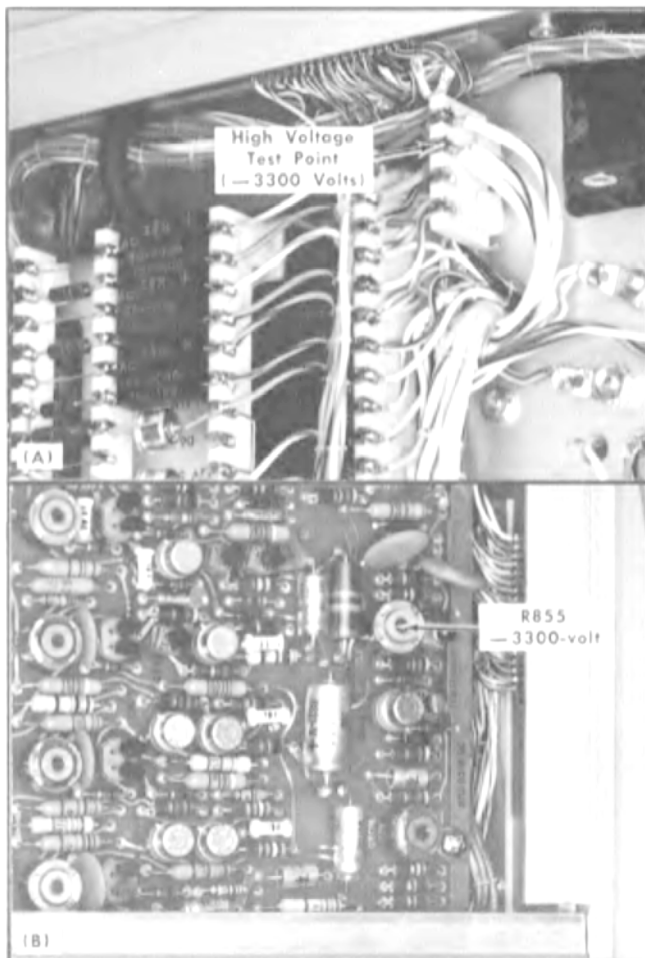

Fig. 6-14. Location of —3300 volt test point and location of —3300 volt adjustment.
- a. Connect the DC voltmeter from the -3300 -volt test point (see Fig. 6-14) to chassis ground.